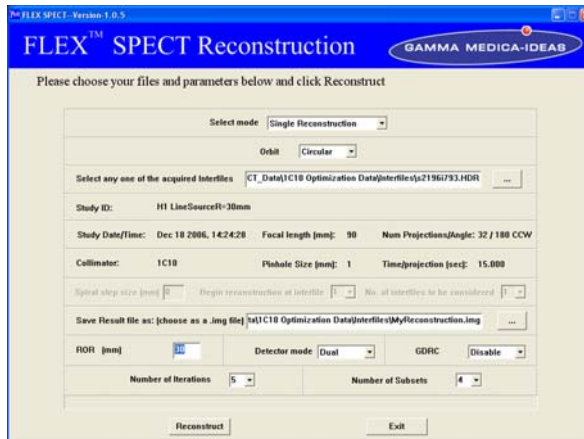

Figure 2.4.2 Single Reconstruction mode.
Once *Single Reconstruction* has been selected, the screen shown in Figure 2.4.2 will appear:
- “*Number of Subsets*” controls the number of projection subsets used as updates in the reconstruction for each iteration of forward-projection/back-projection. The Number of Subsets therefore must divide evenly into the number of projections for the given study. As the number of projections is a multiple of 16 (e.g., 32, 64, and 128) the possible values of the Number of Subsets are 2, 4, 8, and 16. GM-I currently recommends for a general-purpose reconstruction, 5 iterations of 4 subsets (as shown in Figure 2.4.2).